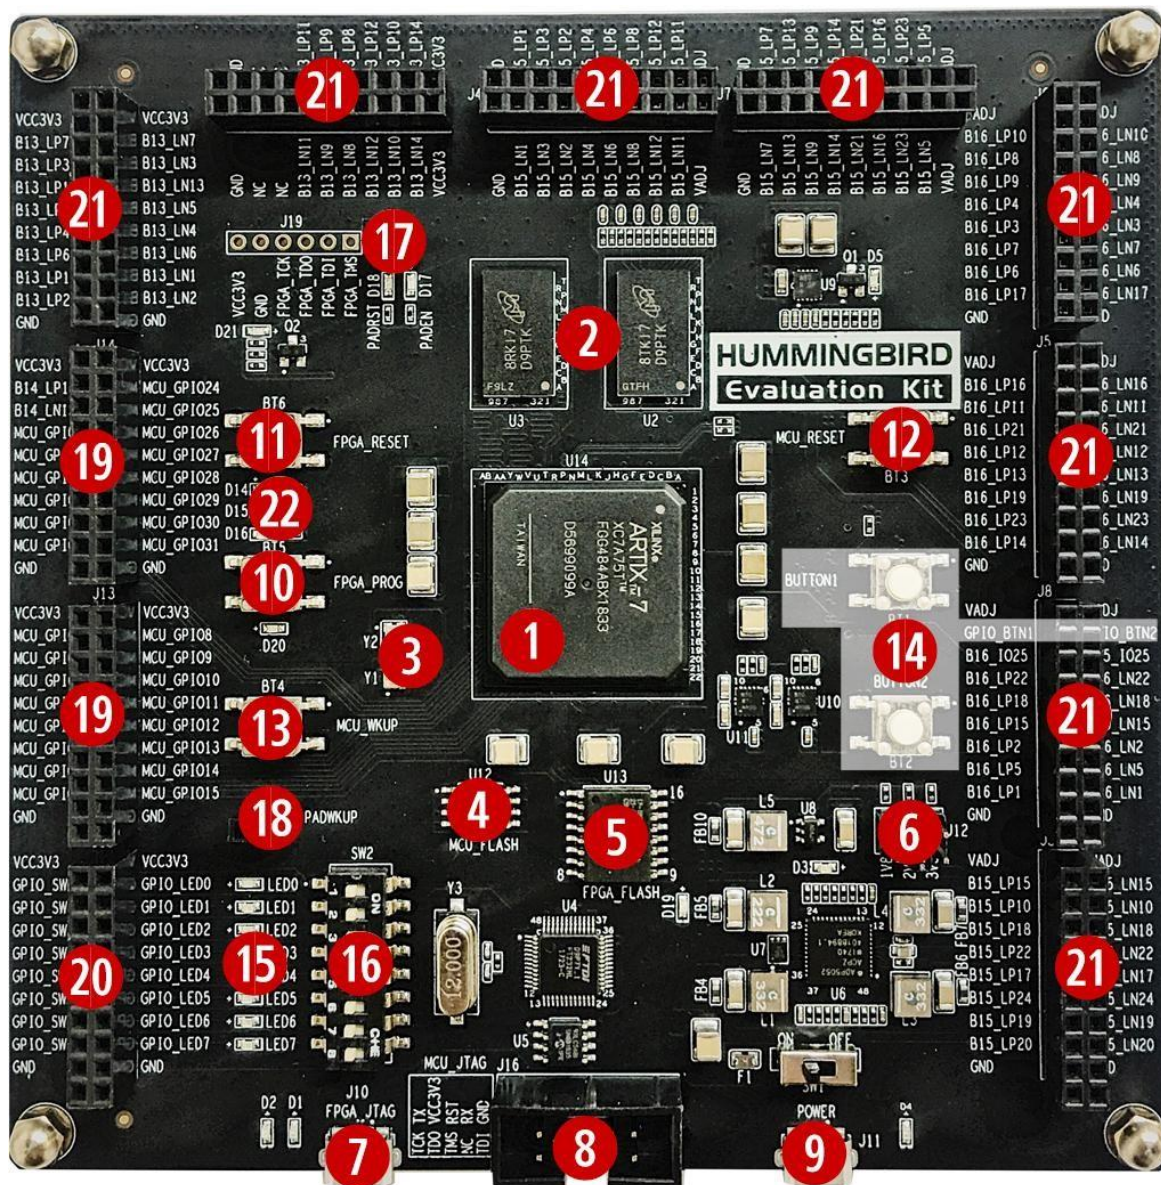

Figure 3-1 Board Hardware Resources
Hummingbird Evaluation Kit is an entry-level FPGA board based on Xilinx FPGA, as depicted in Figure 3-1, the hardware resource (marked as with different numbers in above picture) of this board is described as follows.
- There is a separated SPI Nor Flash on the board (as depicted in the Figure 3-1 mark [4]), this SPI Nor Flash will be connected to the SoC’s SPI interface, which support the XiP mode. The RISC-V Core in the FPGA will start to fetch the instructions (with XiP mode) from this Flash after reset.
- The RTC clock is directly from the FPGA board 32.768KHz clock source (as depicted in the Figure 3-1 mark [3]).
- The high-speed clock is from the PLL output (in FPGA project). The original clock source of PLL is from the FPGA board 100MHz clock source (as depicted in the Figure 3-1 mark [3]).
- The SoC have the “System Reset” pin, and the FPGA project mapped the pin to the board MCU\_RESET button, as depicted in the Figure 3-1 mark [12].
- The SoC have the “PoR Reset” pin, and the FPGA project mapped the pin to the board FPGA\_RESET button, as depicted in the Figure 3-1 mark [11].
- The SoC have 32 GPIO pins, and the FPGA project mapped these GPIO pins to the board exposed connectors (with specific MCU\_GPIOx names as depicted in the Figure 3-1 mark [19]).
- The SoC have JTAG pins and UART0 pins (pin-mux to GPIO\_16 and GPIO\_17 of the SoC), and the FPGA project mapped these pins to the board MCU\_JTAG interface socket, as depicted in the Figure 3-1 mark [8]. The “Hummingbird Debugger Kit” can be connected to this socket, as depicted in Figure 3-2, and then be used to debug the RISC-V core (burned inside FPGA).
As described in Section 3.2.1, one of the purposes of “Hummingbird Evaluation Kit” is to be as the regular FPGA board. To achieve this goal, there are independent switches and LED lights, as depicted in the Figure 3-1 mark [14] [15] [16]. User can utilize these on-board resource to control the SoC, for examples as below:
- The switches (as depicted in the Figure 3-1 mark [16]) are independent there, without connecting to any others. User can use the jumper wire to connect it to MCU\_GPIOx pins, then to use the switch to control the MCU\_GPIO input value.
- The LED lights (as depicted in the Figure 3-1 mark [15]) are independent there, without connecting to any others. User can use the jumper wire to connect it to MCU\_GPIOx pins, then to use the MCU\_GPIO output value to control the LED lights.
- The buttons (as depicted in the Figure 3-1 mark [14]) are independent there, without connecting to any others. User can use the jumper wire to connect it to MCU\_GPIOx pins, then to use the button to control the MCU\_GPIO input value.
As depicted in the Figure 3-1 mark [5], the FPGA board has the SPI Flash to store FPGA's Bitstream (MCS format). If the users want to re-program the FPGA with the Bitstream file, Nuclei have provided the completed FPGA project (for each IP product), and then use Xilinx Vivado to generate the Bitstream file (MCS format).
After generating the Bitstream file (MCS format), then we can program it into the FPGA's SPI Flash (as depicted in the Figure 3-1 mark [5]).
// Step 8: If the above step succeeded, user can push FPGA board's "FPGA\_PROG" button (as depicted in the Figure 3-1 mark [10]), it will trigger the FPGA to load the Bitstream from the SPI Flash into the FPGA chip and make it start to work.
MCU200T Evaluation Kit is an intermediate-level FPGA board based on Xilinx FPGA, as depicted in Figure 3-1 the hardware resource (marked as with different numbers in above picture) of this board is described as follows.